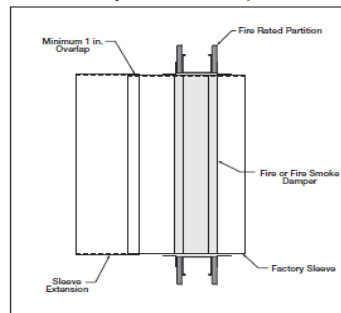

Figure 1: Factory sleeve extends all the way through the rated barrier.
- When the factory sleeve extends all the way through the rated barrier (**Figure 1**)